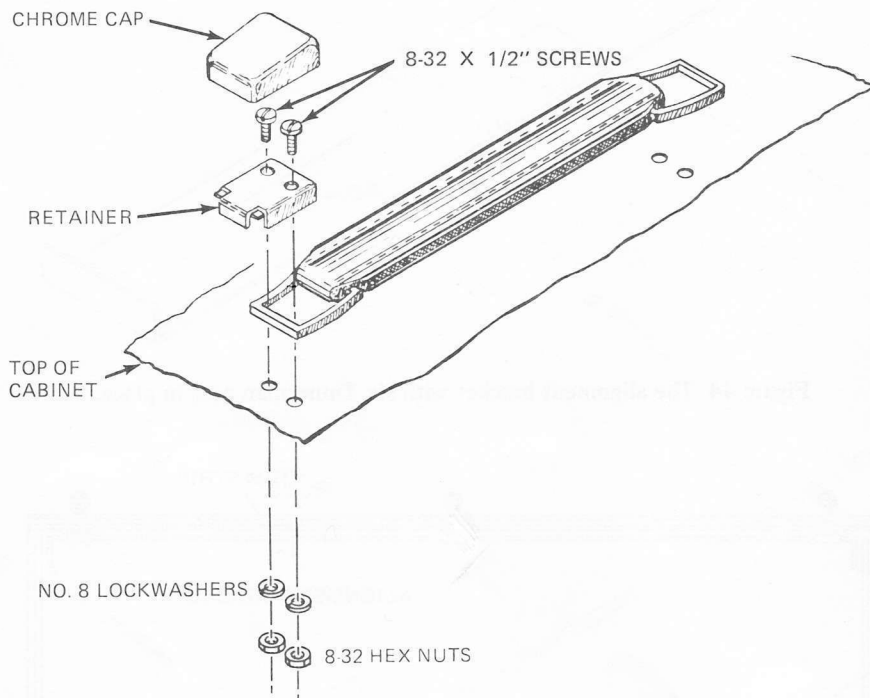

Figure 46. Installing the handle.
(5) Refer to Fig.46 and attach the handle assembly to the top panel and to the chassis with four 8-32 $\times$ 1/2" machine screws, four No.8 lockwashers, and four 8-32 hex nuts. After all four screws are in place, tighten them and the two screws installed in the previous step. Finally snap the two chrome covers into place over the handle brackets ()
(6) Now take the top cabinet half and place it over the top of the oscilloscope, aligning the holes with the holes in the black trim strips. Secure it to the lower cabinet assembly with six 8-32 black Phillips-head screws ()
(7) Tighten all six of the black Phillips-head screws ()